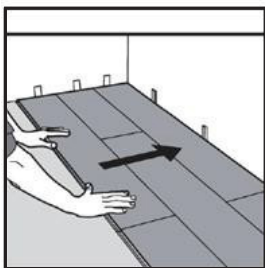

FIGURE 8
2. It may be necessary to rip the last row to allow for the minimum $\frac{1}{4}$ " expansion. If the last row is 2" or less click the pieces to the last full uninstalled row and install them together. If needed use a light rubber mallet to make the remaining rows tight to the installed planks (Figure 8–9).